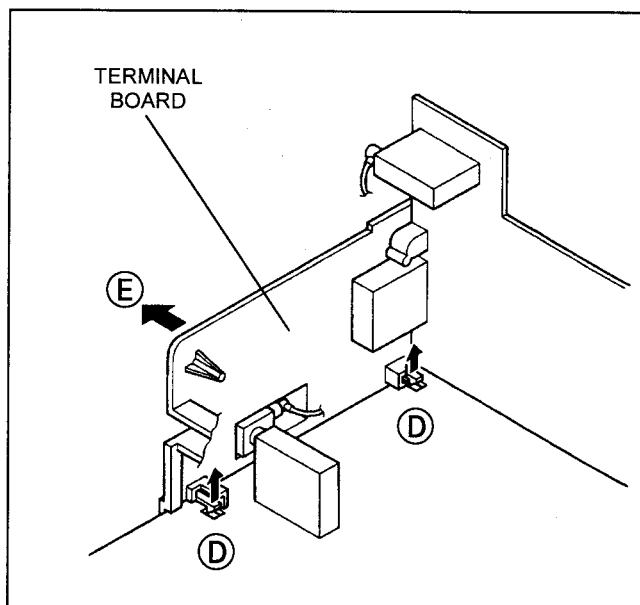

Fig.1
2. As shown in Fig.1, after removing the claw marked (D) in the direction of arrow mark.
3. When you pull out the TERMINAL BOARD in the direction of arrow marked (E) as shown in Fig.1, it can be removed.